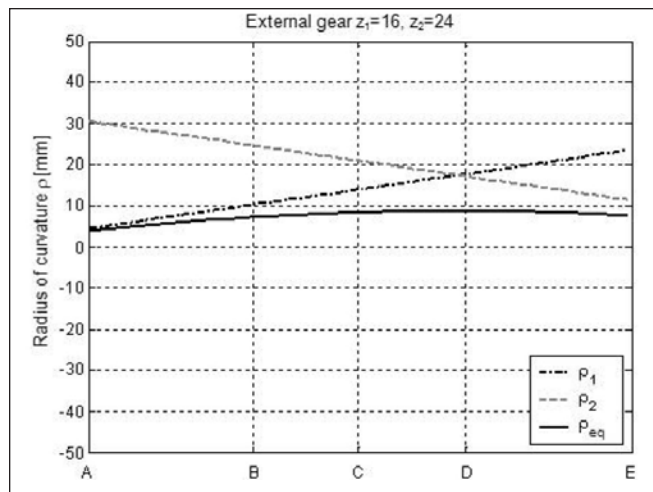

Figure 6—Radius of curvature of the external gear (beginning of contact: dedendum flank of the pinion).
It should first be noted that external gears are a pairing of convex/convex flanks, whereas internal gears are a pairing of convex/concave flanks. Because of these geometrical conditions, the pinion of the external gear shows an increasing radius of curvature (ρ_1) along the transverse path of contact (AE), while the radius of curvature of the wheel (ρ_2) is decreasing (Fig. 6). This leads to an equivalent radius of curvature (ρ_{eq}) that can be regarded as being nearly constant in comparison to the internal gear. The absolute values of